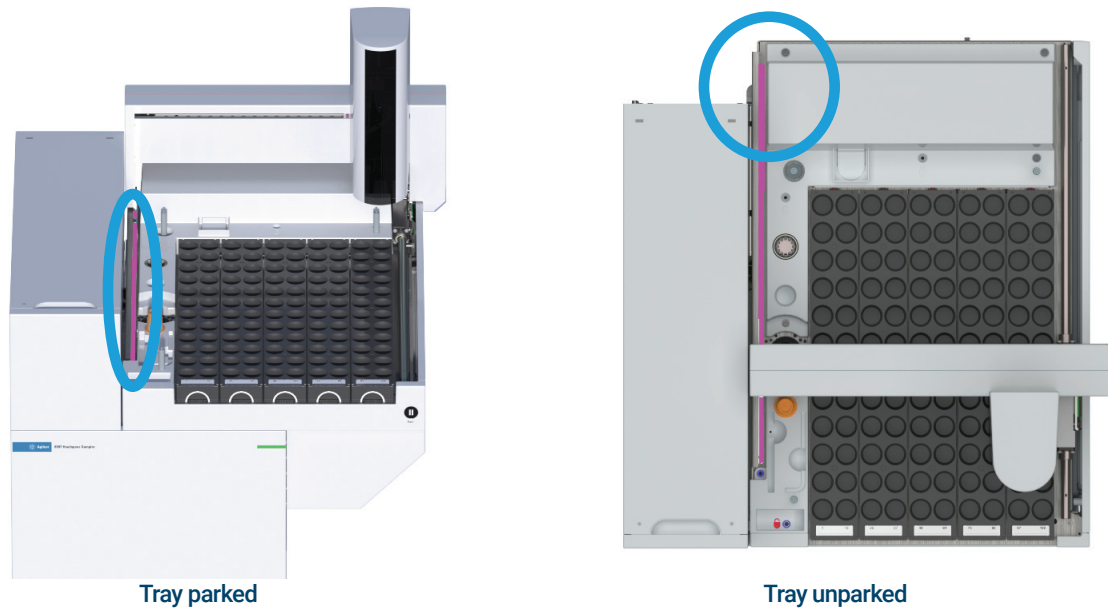

Figure 29. X-Axis track, highlighted in pink
- 2 Wipe the track shown in **Figure 29** with a clean cloth or paper towel dampened with water.